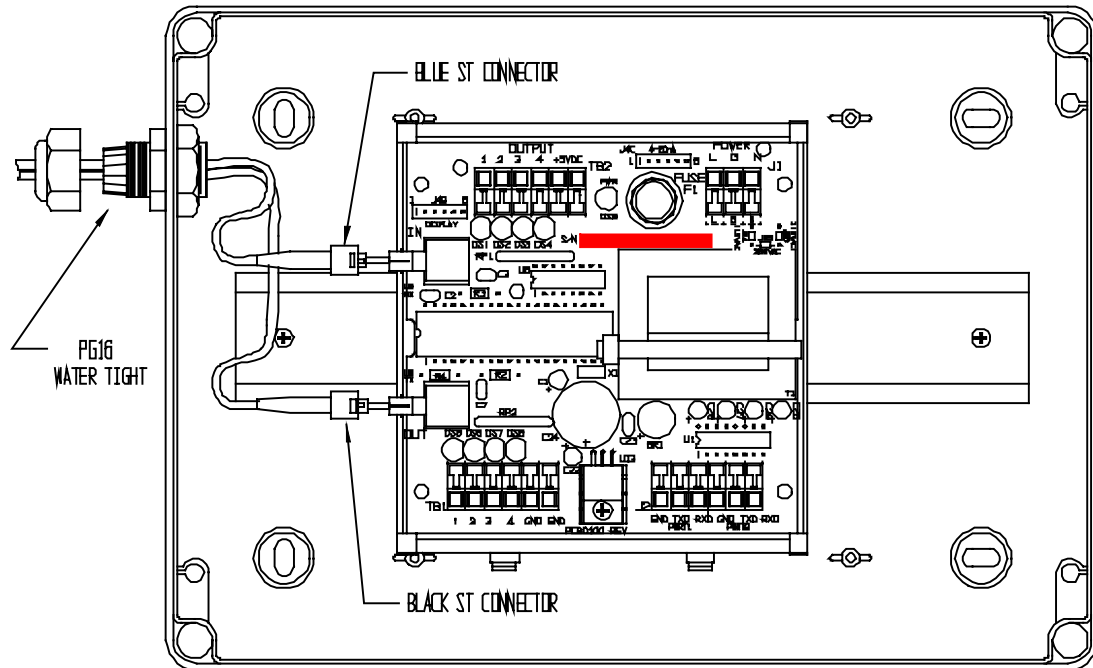

Figure 8.4 Fiber Optic Connection
In order for the Digital I/O option to function properly, a communication cable must be connected between the scale and the I/O. This connection consists of a transmit and receive fiber optic cable. To connect the fiber optic cable to the I/O circuit board, insert the black ST end into the board connector marked “OUT” and the blue ST end into the connector marked “IN” (see Figure 8.4).
The relay option consists of up to four electromechanical relays. The electromechanical relay output consists of terminal 2 - common (COM), terminal 3 - normally open (NO), and terminal 4 - normally closed (NC) (see Figures 8.4 and 8.7). The electromechanical relay (OMRON G2R-1-SN) is rated for a maximum of 10A @250VAC or 10A @30VDC.